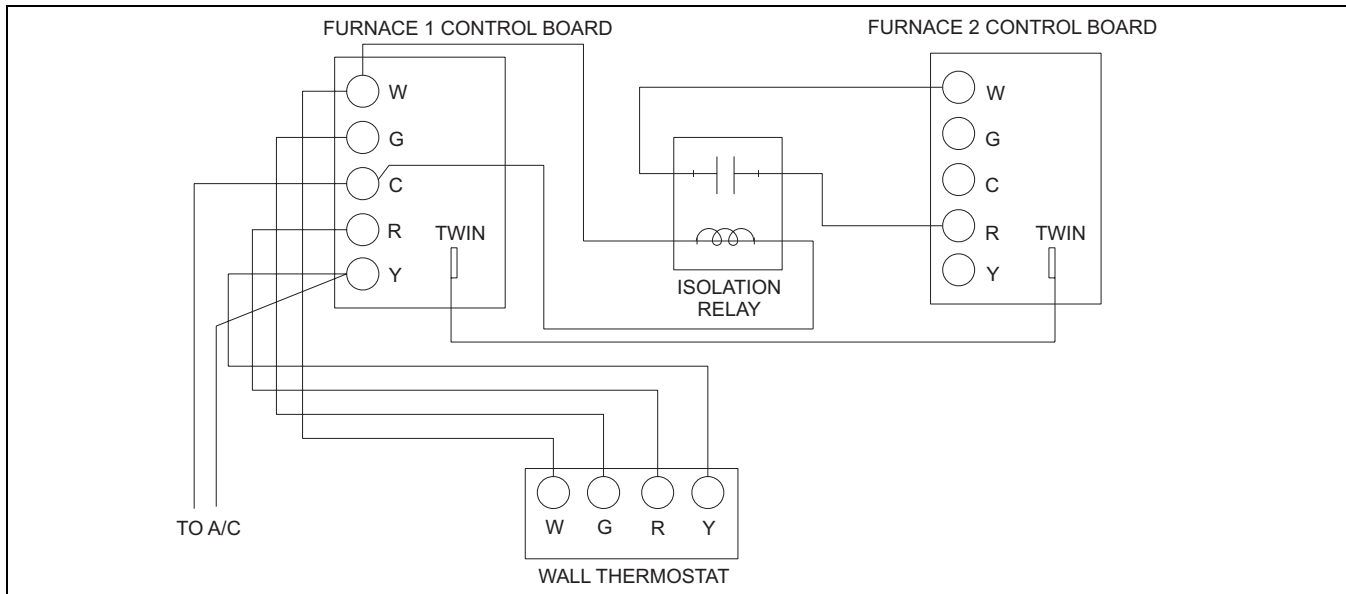

FIGURE 4: Twin Connection Diagram
Connect the control wiring as shown in Figure 4.
3. Install a separate 24V relay as shown in Figure 4. Use of this relay is required, as it ensures that the transformers of the two furnaces are isolated, thus preventing the possibility of any safety devices being bypassed.